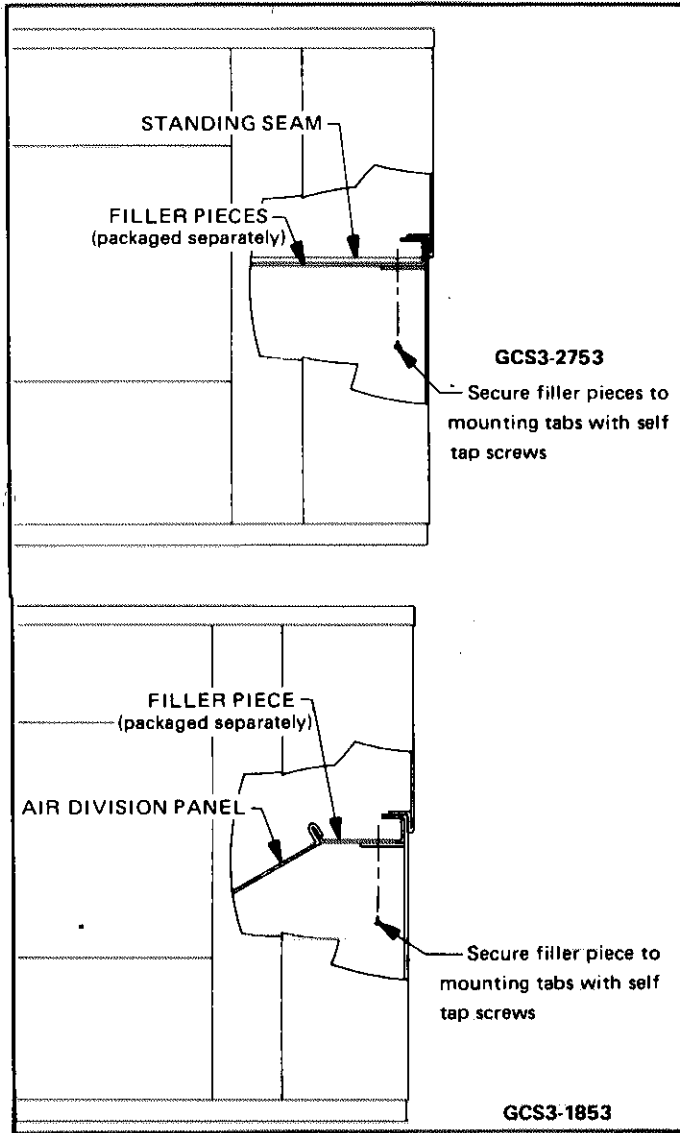

FIGURE 6
- 7—1853 Units Only - Insert end filler piece through drain pan access opening, set on mounting tabs inside unit, and secure through pre-punched holes with self tap screws. Refer to Figure 6.
- 8—953, 1353 And 1853 Units Only—Turn air division panel end for end and insert through filter access opening. Hook lower flange on division panel into drain pan. On 1853 units, upper standing seam on division panel fits over flange on end of filler piece. See Figure 6.